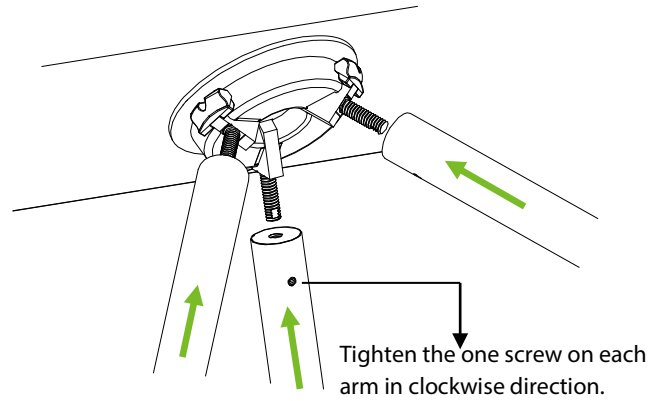

Figure 2-2
- Rotating the arms to the connection points until it was fastening, and use the Hex key to fasten the one screw on each arm, as shown in figure 2-2.